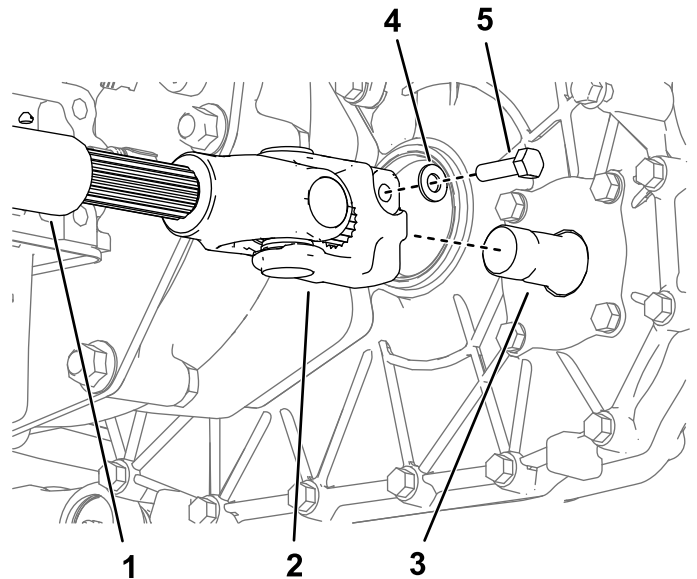

Figure 1
1. Detach the existing yoke and shaft assembly from the driveshaft by removing the clamp screws at both ends of the driveshaft (Figure 1). Retain the clamp screws for installation.